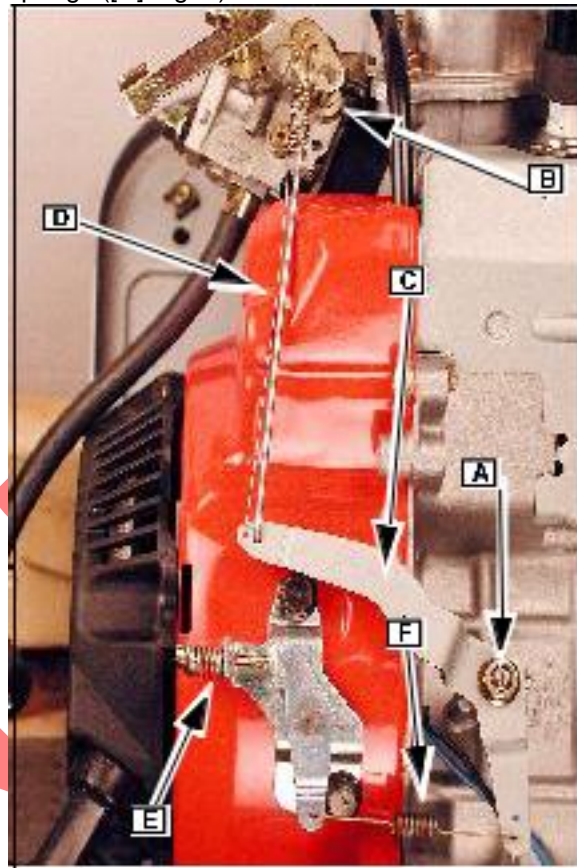

Fig. 3
series of interconnecting linkages and springs (D) (Fig. 3).
The engine speed at which these two forces balance is called the governed speed and can be set by using different spring combinations or adjustments (E) to the tension of the governor return spring (F) (Fig. 3).